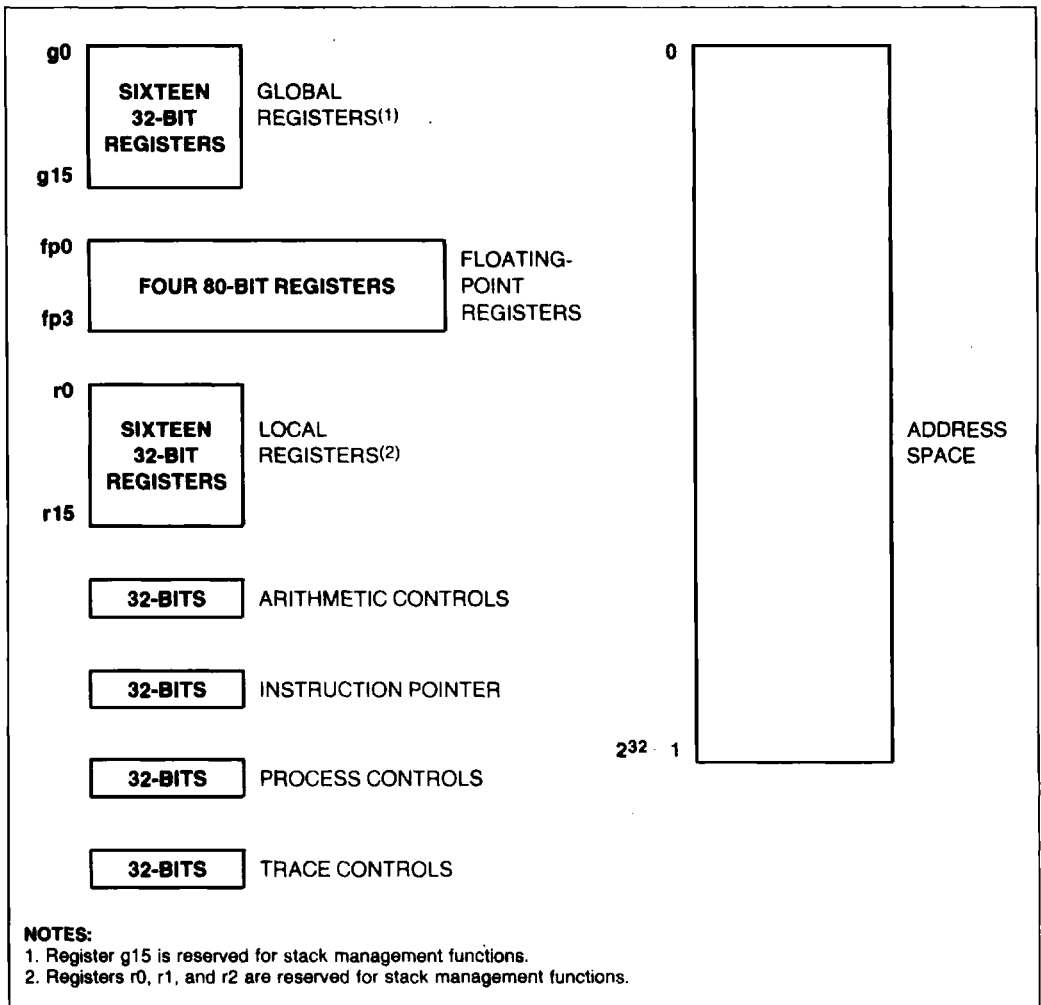

Figure 2. Register Set
**1. Large Register Set.** Having a large number of registers reduces the number of times that a processor needs to access memory. Modern compilers can take advantage of this feature to optimize execution speed. For maximum flexibility, the 80960MC provides thirty-two 32-bit registers (sixteen local and sixteen global) and four 80-bit floating-point global registers. (See Figure 2.)